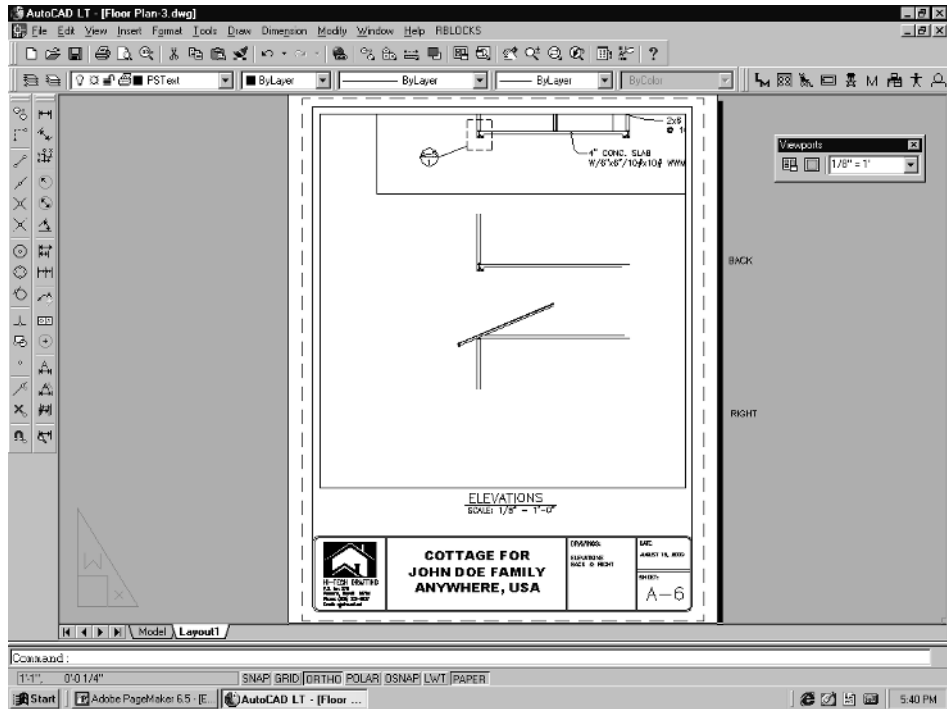

Figure 5-6
- Now, pick the **PAPER** button on the status bar and change it to **MODEL**. Pan the drawing over so that you can see the new details “copy” in the viewport, as shown in Figure 5-6.